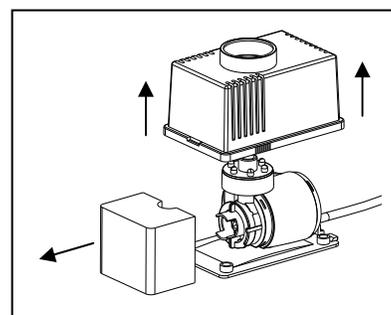

Fig. 14
3. Pull off the cover and remove the filter pad. Rinse the filter pad to remove any debris. Fig. 14